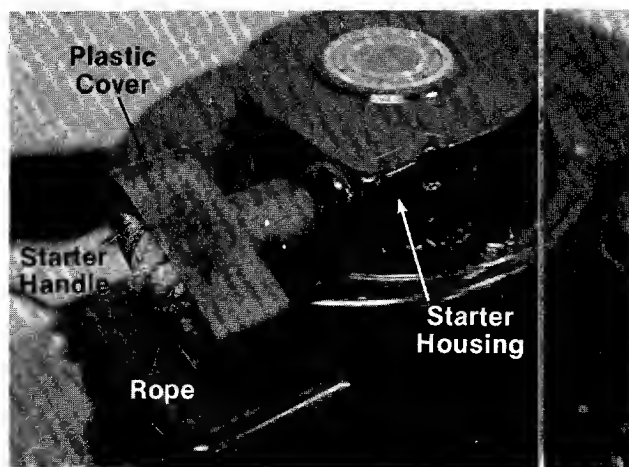

FIGURE 9.
14. The starter rope is pulled out from the engine, wrapped around the starter handle and secured with a plastic cover for shipping purposes. Hold the rope so that it does not retract into the starter housing on the engine. Remove the plastic cover and discard. See figure 9.